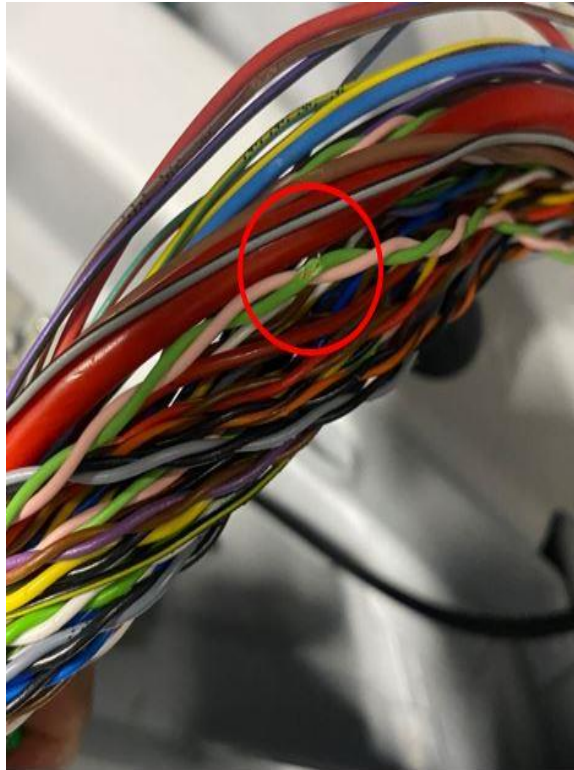

Figure 3. Close-up of the damaged wire.
- 1 close up – clearly focused and showing the damaged circuit (Figure 3).
Using the description in the example above, the damage to the FlexRay wire is clearly visible in Figure 3.